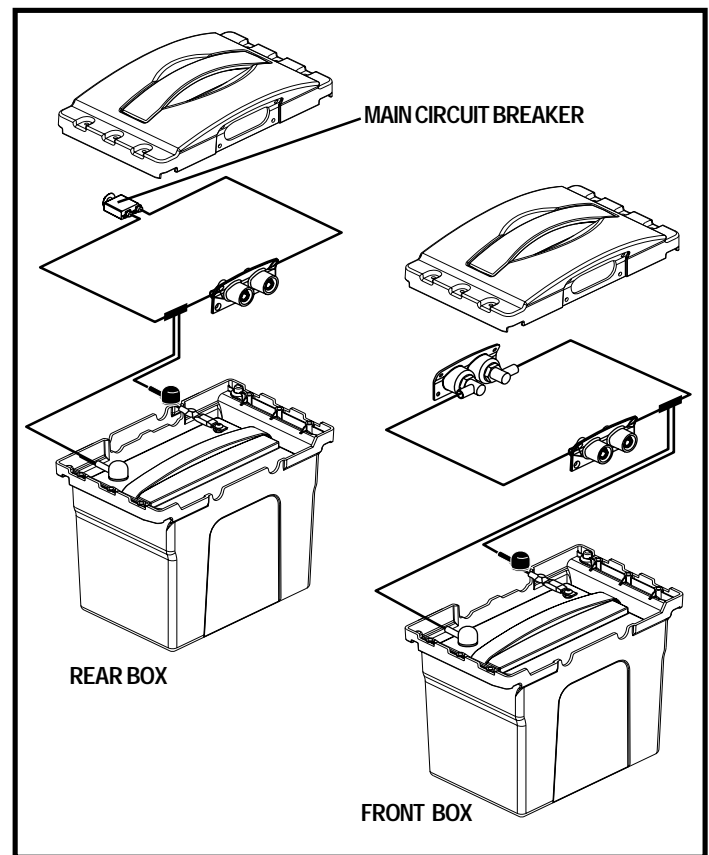

Figure 39. Battery Boxes
6. Place new batteries in the battery boxes. See figure 39.